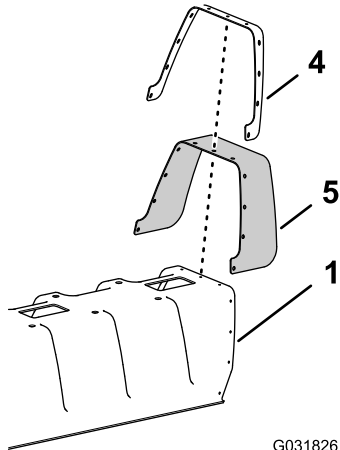

Figure 146
1. Using a drill with a 5 mm (3/16 inch) drill bit, drill the 11 pop-rivets (Figure 146) that secure the reinforcement plate (with a single row of rivets) and rubber cover to the end of the 11-nozzle section cover for the center-spray section that you removed in step 2 of 6 Removing the Center-Section Cover (11-nozzle) of the Optional Covered-Boom Kit (page 21).
- 2. Remove the reinforcement plate, 11 washers (3/16 inch), and rubber cover from the 11-nozzle boom cover (Figure 146).